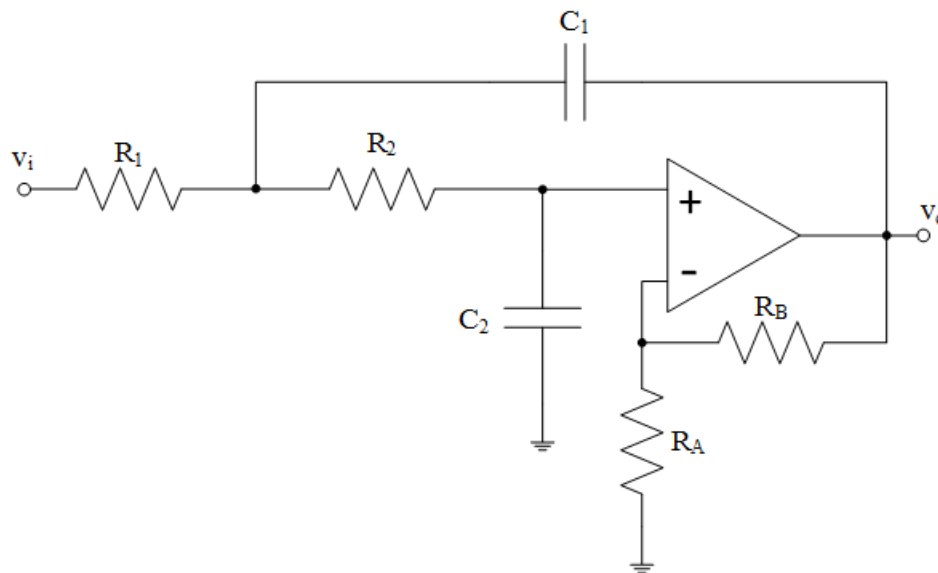

Figure 1: Sallen-Key Low-Pass Filter Circuit
The Butterworth filter is a commonly used low-pass filter as it has a maximally flat magnitude in the passband and a generally linear phase response. The filter is designed such that the gain of the passband frequencies is flat, resulting in no gain ripples, and the poles are inherently located solely in the left hand quadrants of the s -plane. By increasing the order of the filter one can increase the rate at which the magnitude transitions from the passband to the stopband, acting more like an ideal low pass filter. The Butterworth filter, and many other filter types, can be achieved by utilizing the Sallen-Key circuit (see Figure 1), as it requires a simple op-amp configuration with calculable component values.
5. Find the transfer function of the generic Sallen-Key filter (as seen in Figure 1). **Hint:** Google is your friend. Often times the components R_A & R_B are left out of the generic form, but can simply be used to scale the DC gain of the filter.